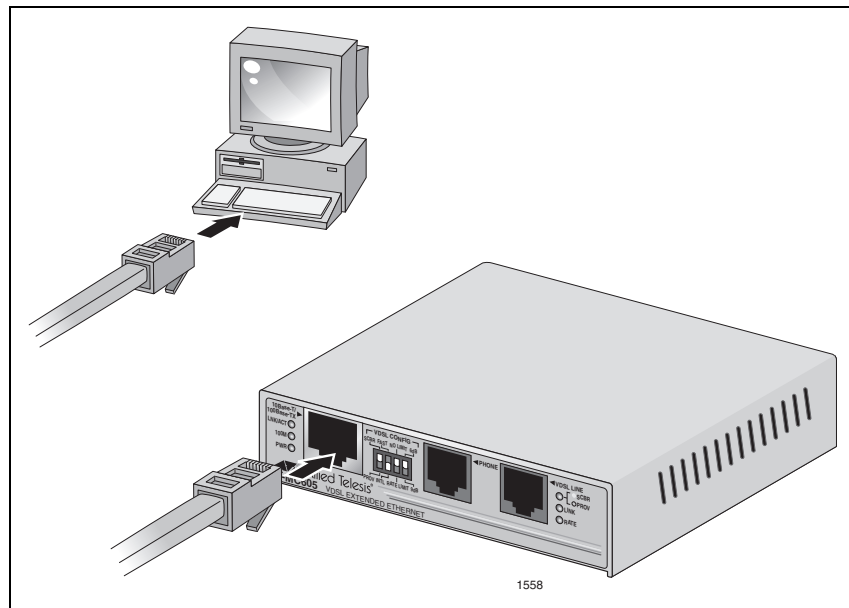

Figure 8. Connecting AT-MC605 Ethernet Port to Computer
1. To connect a computer to the AT-MC605 Ethernet Extender, connect the ethernet cable from the AT-MC605 ethernet port to the ethernet port on your computer, as shown in Figure 8 , “Connecting AT-MC605 Ethernet Port to Computer”.